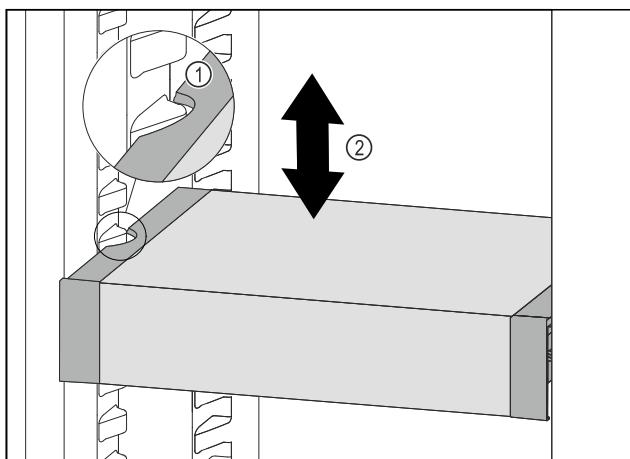

Fig. 130
- ▶ Pull VarioSafe forwards until the recesses in the side of the VarioSafe are at the level of the support rib in the refrigerator compartment. Fig. 130 (1)
- ▶ Move VarioSafe up or down in the refrigerator compartment until the desired height is reached. Fig. 130 (2)